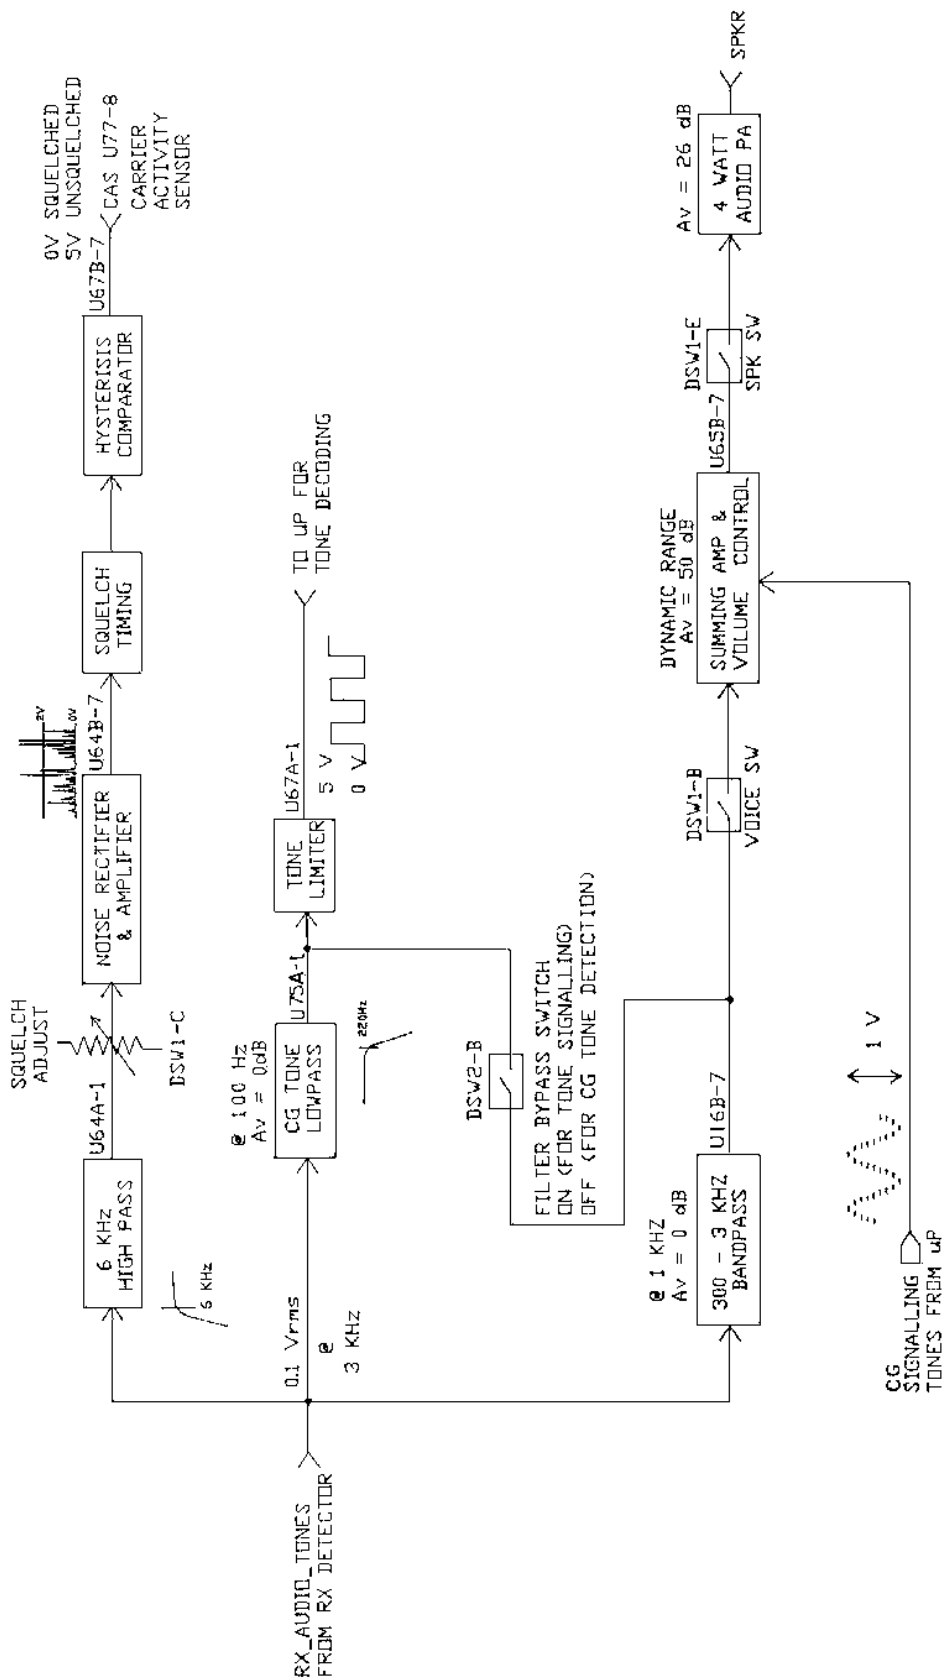

Figure 1 - Rx Voice, Tone and Squelch Path Block Diagram
Unfiltered receiver audio from the RF Circuit (**RX_AUDIO_TONES**) is passed through the receiver audio path which consists of a band pass filter, muting gates, a volume control amplifier, and a 4 watt audio PA. Refer to Figure 1 for a block diagram of the receiver audio path and tone path.
- 1. Refer to the block diagrams Figures 1 and 2, for proper signal levels and gains for the various audio paths.
- 2. All bias point (VB) shown on the audio circuit schematic diagram are generated by Regulator U83. None of the operational amplifier circuits will operate properly without this voltage.